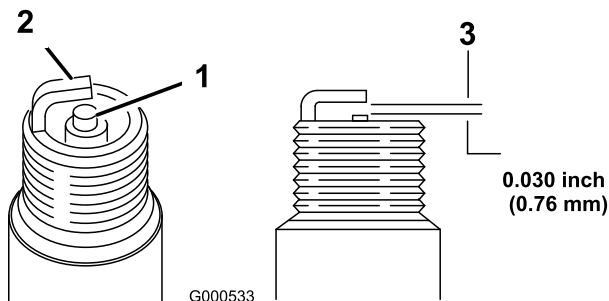

Figure 38
2. Check the gap between the center and side electrodes (Figure 38). Bend the side electrode (Figure 38) if the gap is not correct.
1. Look at the center of the spark plug(s) (Figure 38). If you see light brown or gray on the insulator, the engine is operating properly. A black coating on the insulator usually means the air cleaner is dirty.